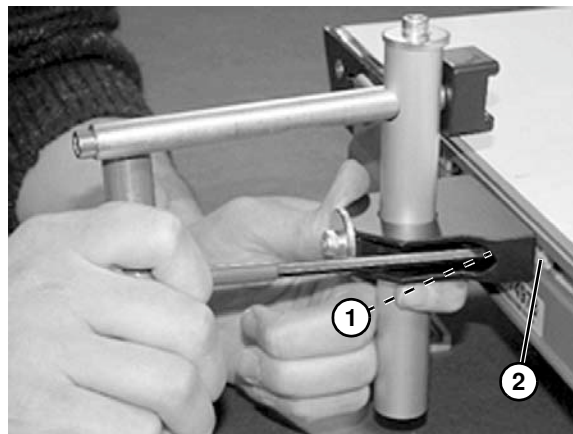

Figure 30
2. Tighten screws (**Figure 30, item 1**) making sure t-nut (**Figure 30, item 2**) rotates and engages inside of the t-slot.